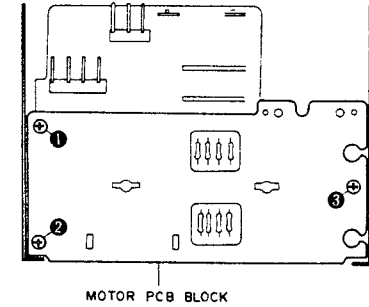

Fig. 3-10
- 2) Remove motor PCB block securing screws **1**, **2** and **3** and take out the motor PCB block. (Refer to Fig. 3-10.)